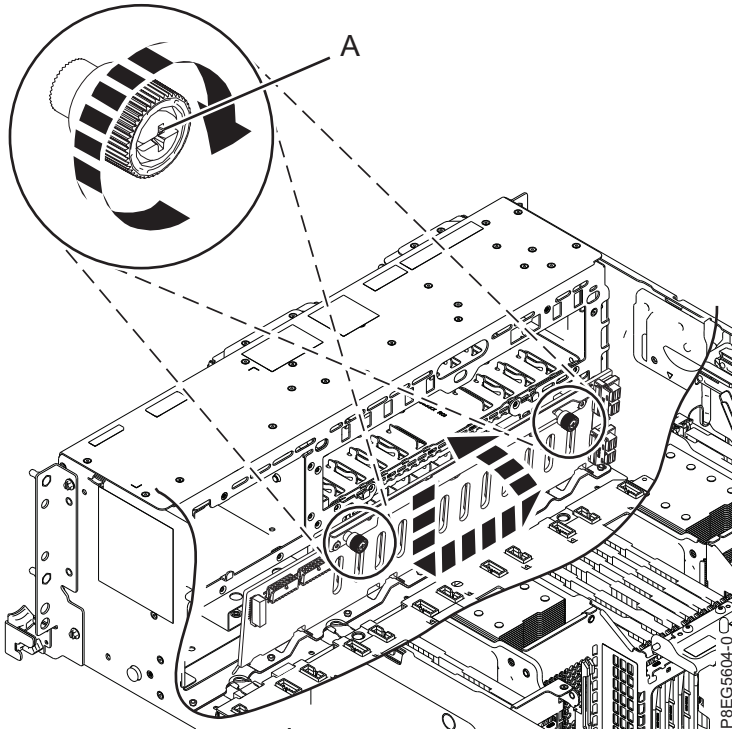

Figure 6. Replacing the disk drive backplane
3. Using the ledge at the top of the disk drive backplane and facing towards the front of the system, replace the backplane. Tilt it towards the rear and lower it down into the chassis. Align the backplane cutouts with the tabs in the chassis to insert it into the system. Slide the backplane to the side as is shown in Figure 6 on page 8.